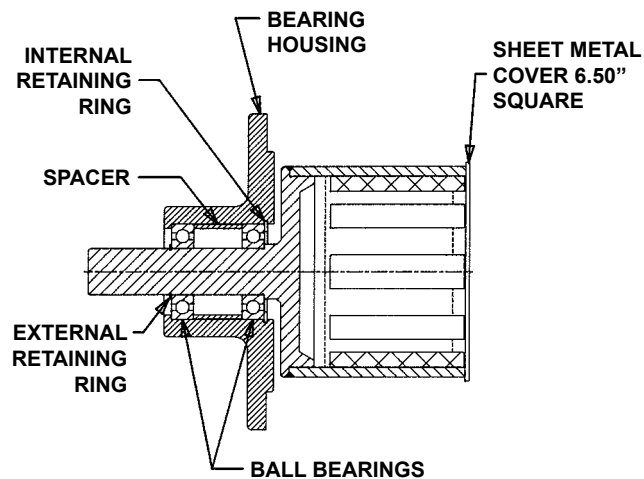

FIGURE 12
1. Refer to **Figure 12** for part identification. Cover the open end of the outer magnet with a piece sheet metal or cardboard. This will keep foreign material out of magnet area. Set the assembly face down with the shaft pointing up and remove handknobs.